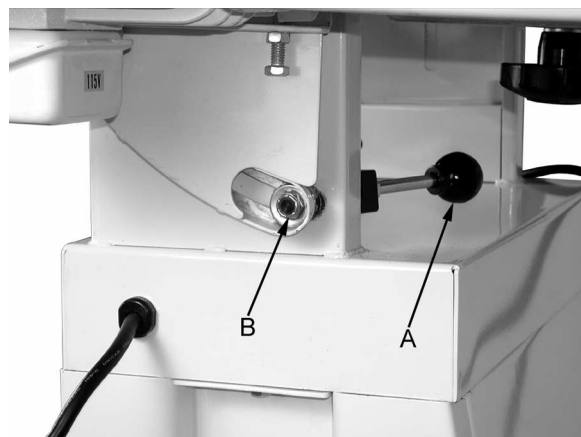

Figure 11
3. Tension eccentric block by tightening the nylon nut (B, Fig. 11) with a 14mm wrench. Turn the nut in by 1/4 turn increments and test locking handle for proper tension.